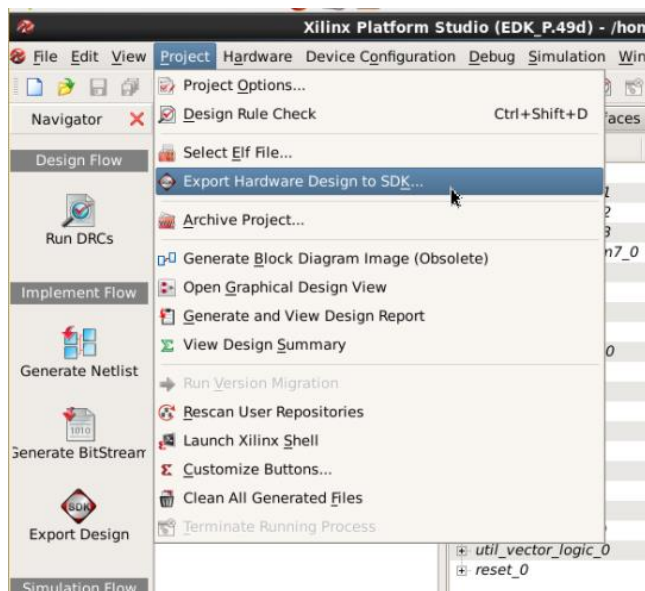

Figure 27. Export Hardware Design to SDK
**III-1** Export the hardware design (after step I-21) to Xilinx SDK by clicking on **Project -> Export Hardware Design to SDK...**, as shown in Figure 27. In the pop-up window, click **Export and Launch SDK**, as shown in Figure 28.